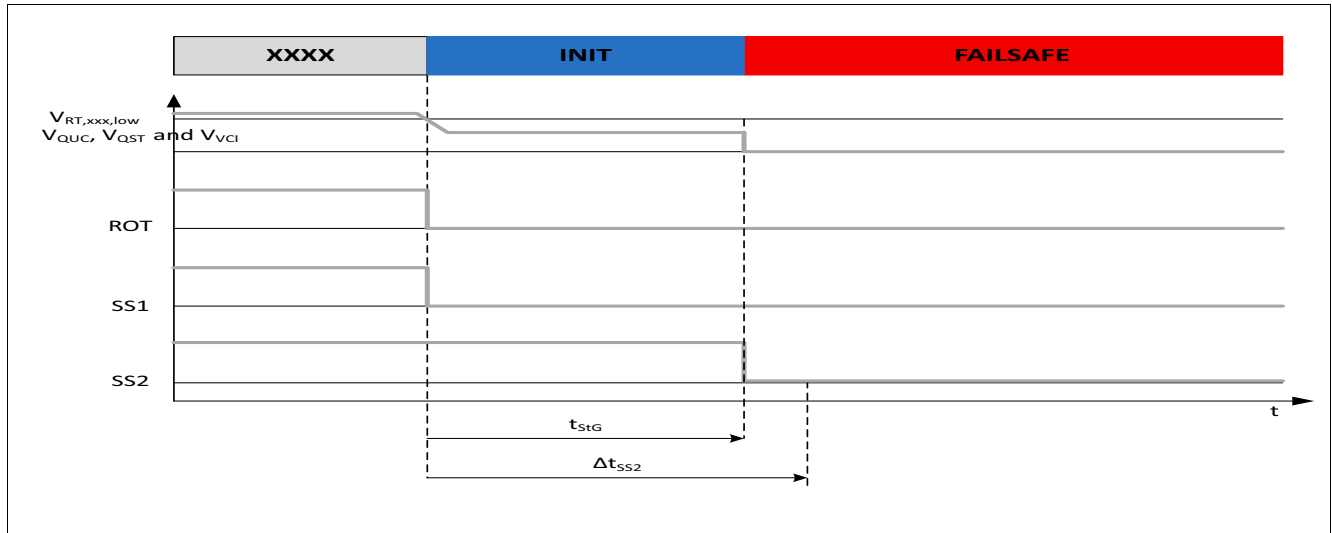

Figure 52 Transition from XXXX to INIT to FAILSAFE state after detection of short to ground
- The detection of a short to ground of the μC related voltages V_{QUC} , V_{QST} or V_{VCI} as shown in the Figure 52 will first be detected as an under voltage event and move the device from NORMAL state to INIT state. After the short to ground detection time t_{SIG} the device will then move from INIT state to FAILSAFE state (please refer to transition from INIT state to FAILSAFE state).
- The detection of a short to ground of the μC related voltages V_{QUC} , V_{QST} or V_{VCI} as shown in the Figure 52 will first be detected as an under voltage event and move the device from STANDBY state to INIT state. After the short to ground detection time t_{SIG} the device will then move from INIT state to FAILSAFE state (please refer to transition from INIT state to FAILSAFE state).
- The detection of a short to ground of the μC related voltages V_{QUC} , V_{QST} or V_{VCI} as shown in the Figure 52 will first be detected as an under voltage event and move the device from SLEEP state to INIT state. After the short to ground detection time t_{SIG} the device will then move from INIT state to FAILSAFE state (please refer to transition from INIT state to FAILSAFE state).
- The detection of a short to ground of the μC related voltages V_{QUC} , V_{QST} or V_{VCI} as shown in the Figure 52 will first be detected as an under voltage event and move the device from WAKE state to INIT state. After the short to ground detection time t_{StG} the device will then move from INIT state to FAILSAFE state (please refer to transition from INIT state to FAILSAFE state).